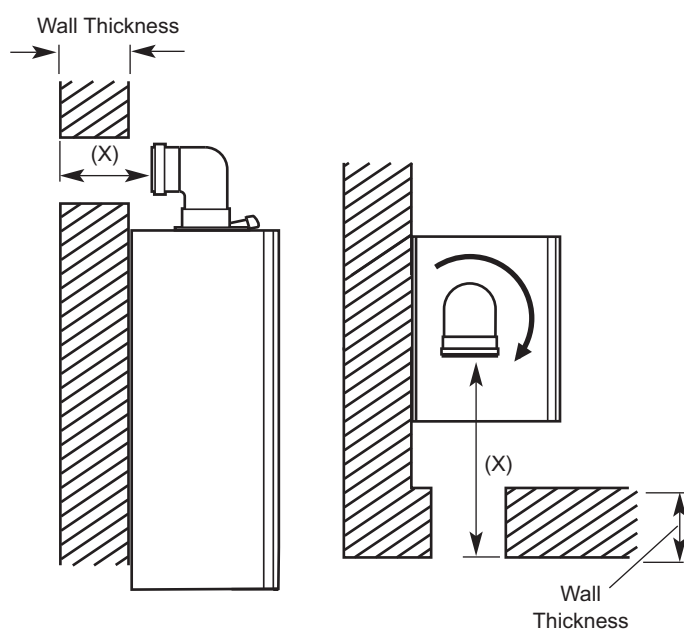

Fig. 25
3. Locate the flue elbow on the adaptor at the top of the boiler. Set the elbow to the required orientation (Fig. 25).
4. Measure the distance from the outside wall face to the elbow. This dimension will be known as 'X' (Fig. 25).
5. If the distance from the flue elbow to the outside face of the wall ('X' in Fig. 25) is less than 250mm the connection assembly can be discarded and the terminal assembly fitted directly into the elbow.
6. In instances where the dimension 'X' (Fig. 25) is between 250mm and 315mm it will be necessary to shorten the terminal assembly by careful cutting to accommodate walls of these thicknesses.